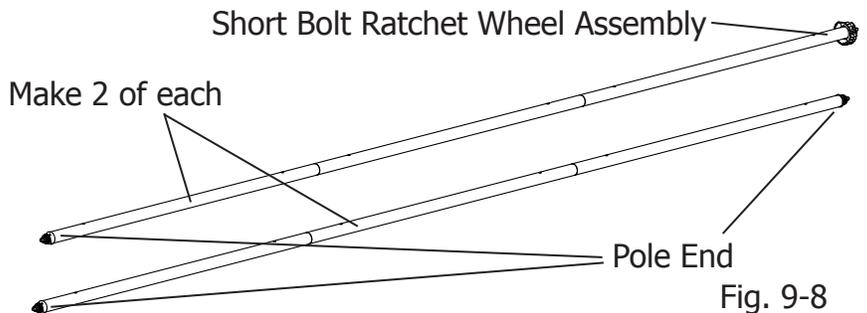

Fig. 9-8
**9-8:** Repeat steps 9-5 and 9-6 to add remaining two pole ends to the open ends of two 12-foot pole assemblies (see bottom pole in Fig. 9-8).